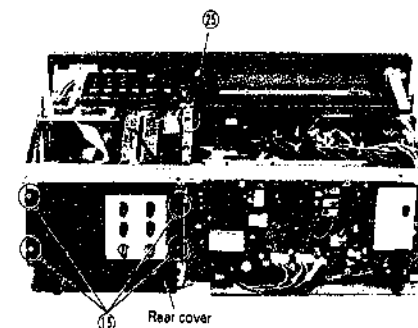

Fig. 15
⑮ 4 screws. (Fig. 15)
⑯ 1 screw. (Fig. 15)